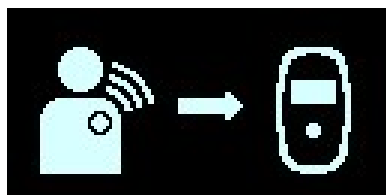

Figure 81: IPG Data Download Screen
4. The charging process begins with a display of the IPG Data Download and IPG Data Download Success screens. **See Figures 81 and 82.**